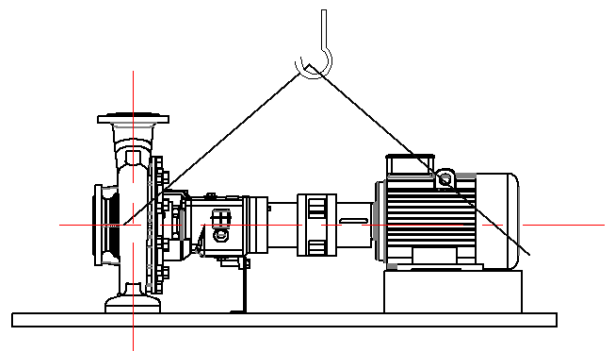

Figure3: Transport of Pump Group
- Install the pump on the concrete base as illustrated in Figure 3.